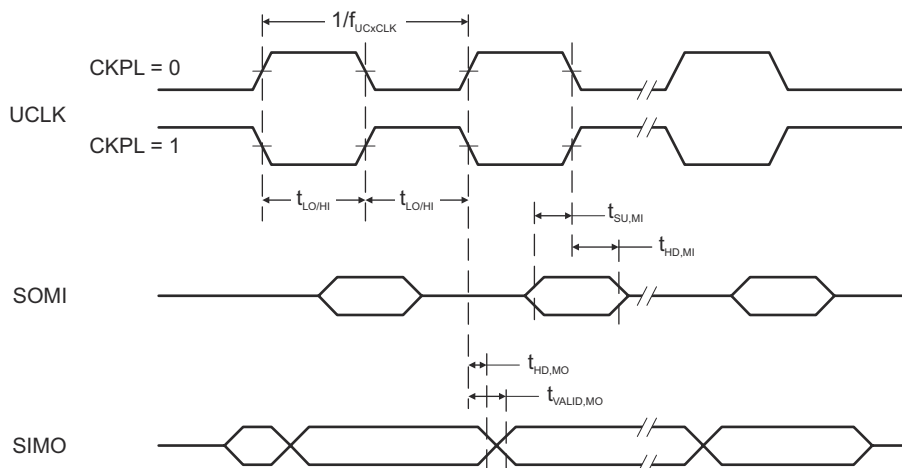
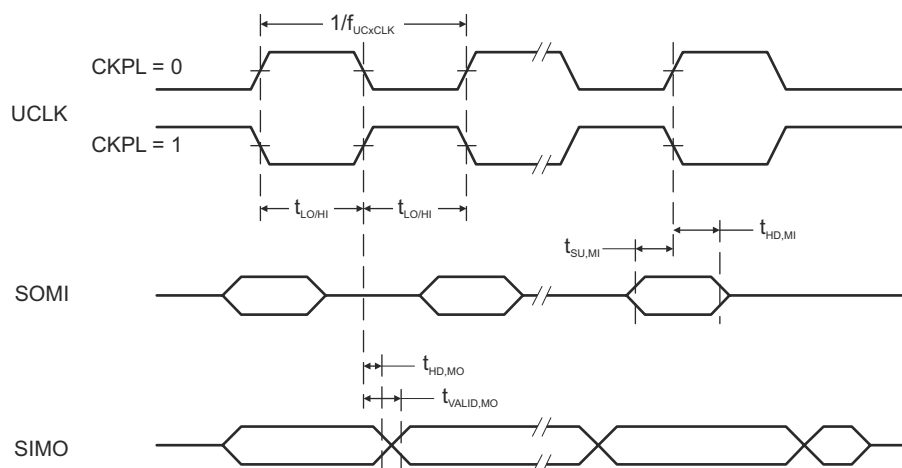

图 8-13. SPI Master Mode, CKPH = 0
图 8-14. SPI Master Mode, CKPH = 1
(see 图 8-13 and 图 8-14)
- (2) Specifies the time to drive the next valid data to the SIMO output after the output changing UCLK clock edge. See the timing diagrams in 图 8-13 and 图 8-14.
- (3) Specifies how long data on the SIMO output is valid after the output changing UCLK clock edge. Negative values indicate that the data on the SIMO output can become invalid before the output changing clock edge observed on UCLK. See the timing diagrams in 图 8-13 and 图 8-14.